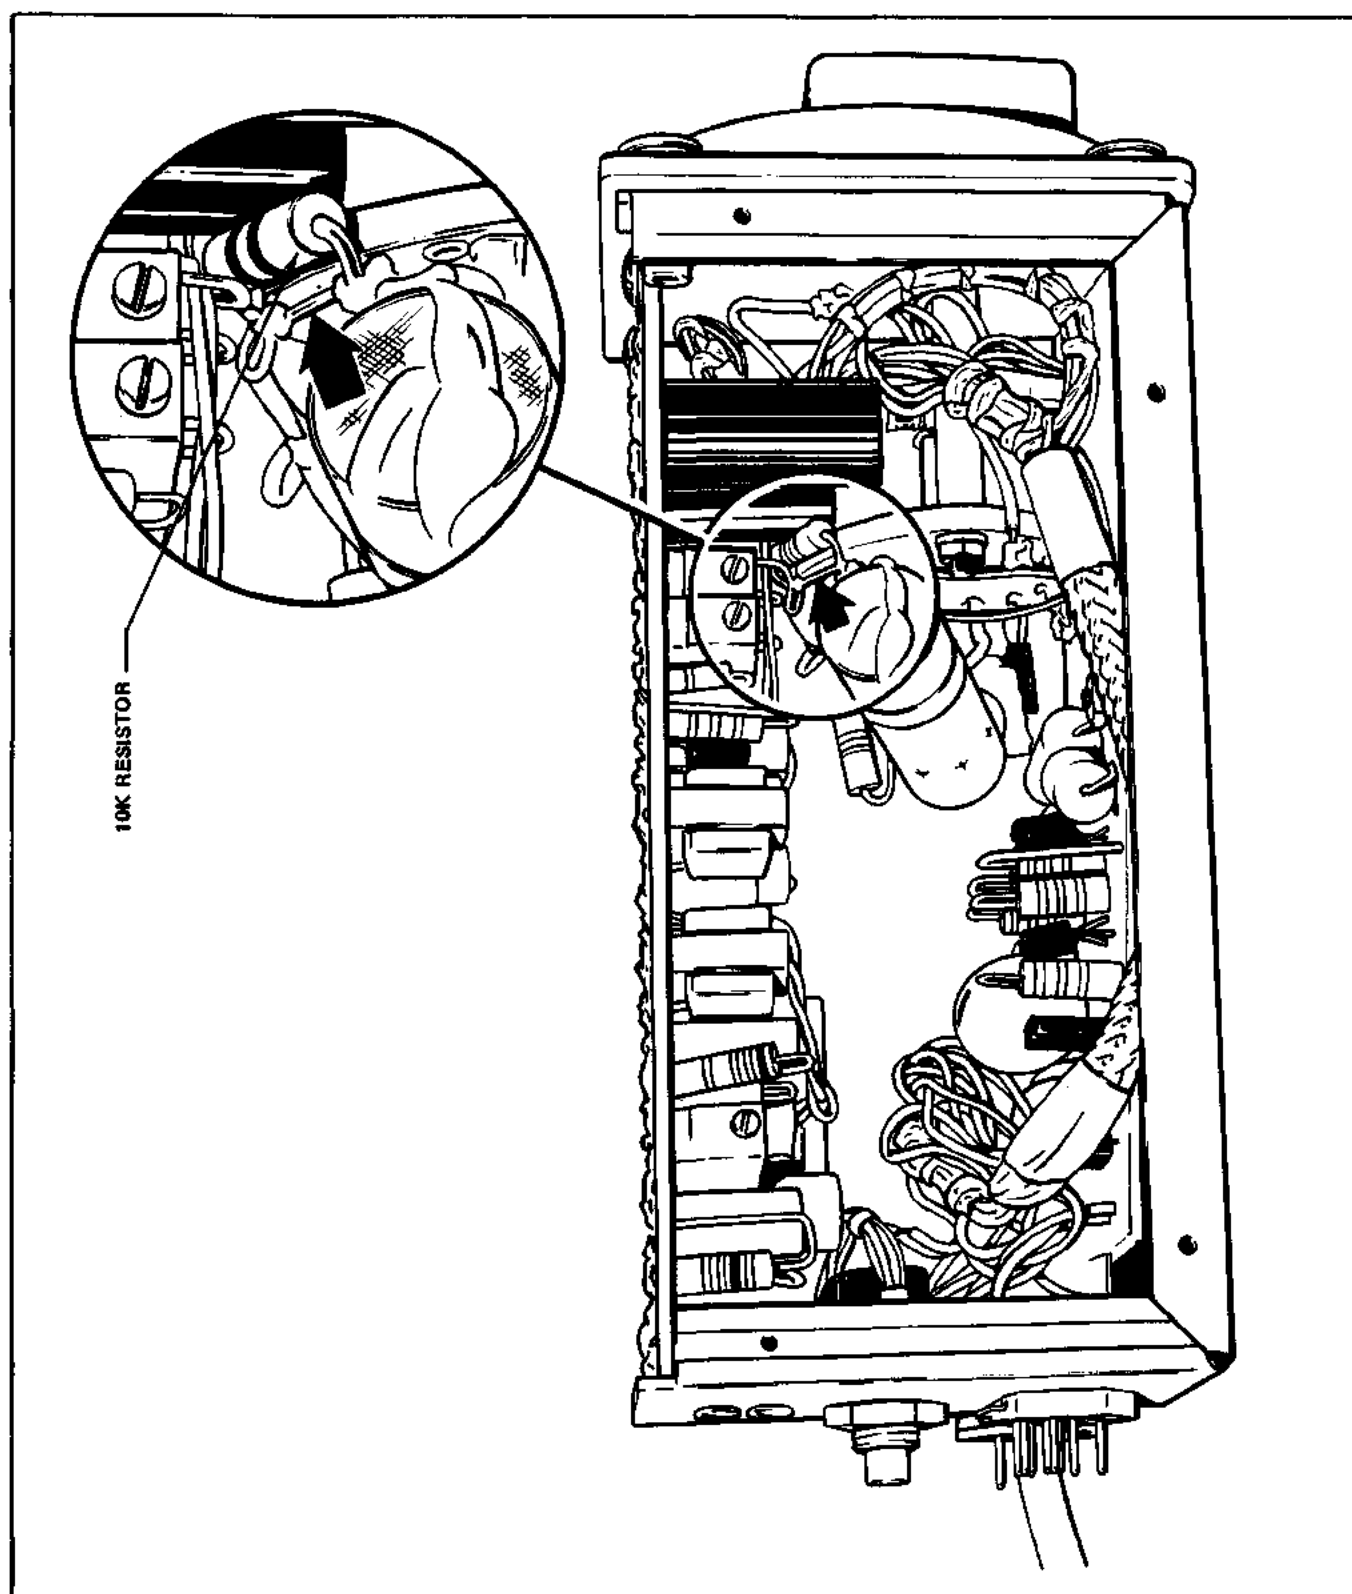

Figure 5-7. Piper Omni/Localizer Coupler Modification Detail
3. Locate clipped jumper across 10K resistor. (Refer to Figure 5-7.)